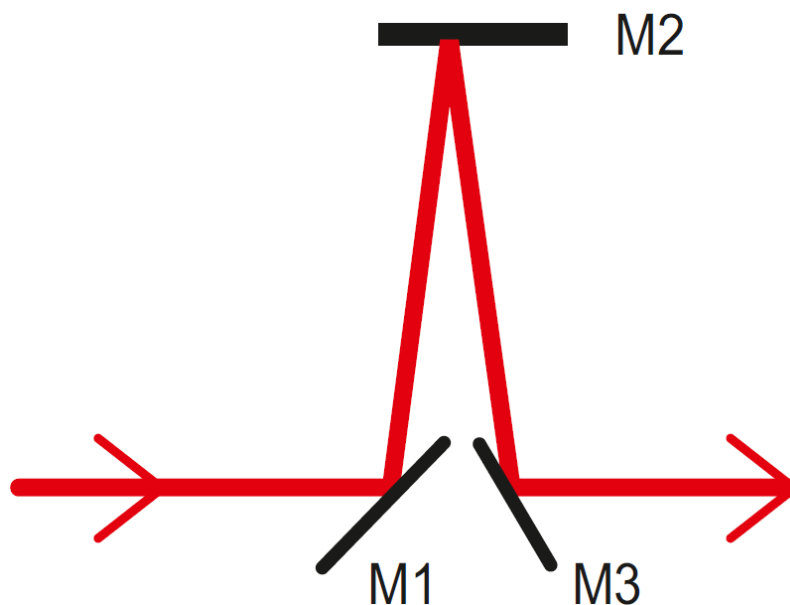

Fig. 1 Beam diagram of collinear nondispersive fast laser shutter. M1-rotating galvo mirror, M2 and M3-adjustable mirrors.
The optical beam path inside in the beam shutter is presented in Fig.1.
4. Switch on the controller power supply. The galvo scanner mirror then takes position parallel to optical axis (Fig.1). It corresponds to low TTL level and position "beam opened". Under good alignment of system, you will see a 100% visible beam throw over the output hole of shutter.